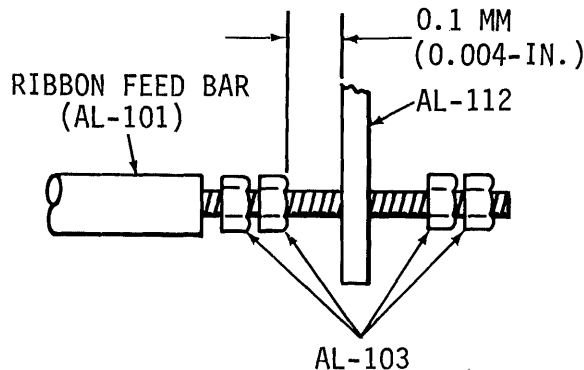
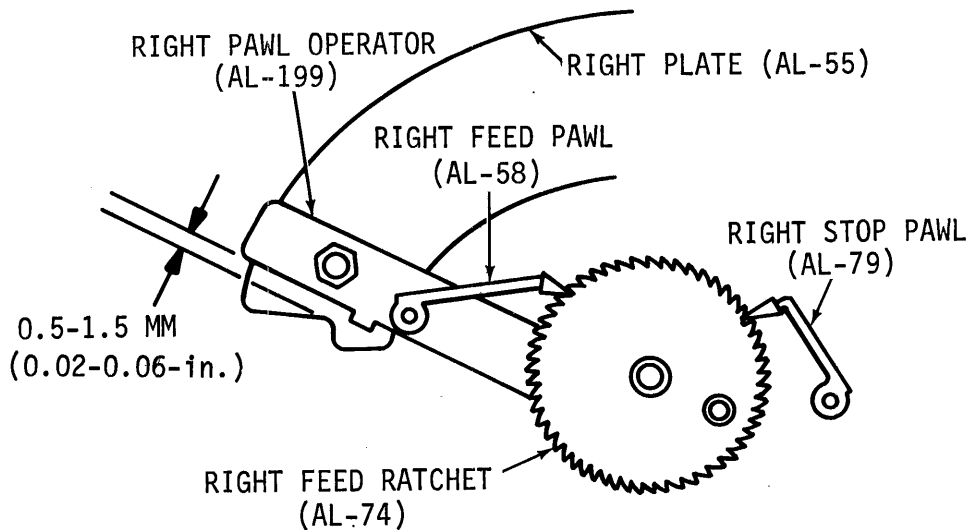

Figure 5-20. ADJUSTING NUTS FOR RIGHT PAWL OPERATOR MOVEMENT
Figure 5-21. RIGHT PAWL OPERATOR STARTING POSITION
b. Ribbon Feed Bar - Right Side (Fig. 5-20)
4. Right Pawl Operator (AL-199) Starting Position (Fig. 5-21)
- b. To adjust and maintain 0.5-1.5 mm (0.02-0.06-in.) between plate and operator, as shown in Fig. 5-21, adjust and tighten nuts (AL-103) referred to in Figure 5-20 (Note that right stop pawl (AL-79) and right feed pawl (AL-58) are fully engaged, Fig. 5-21).